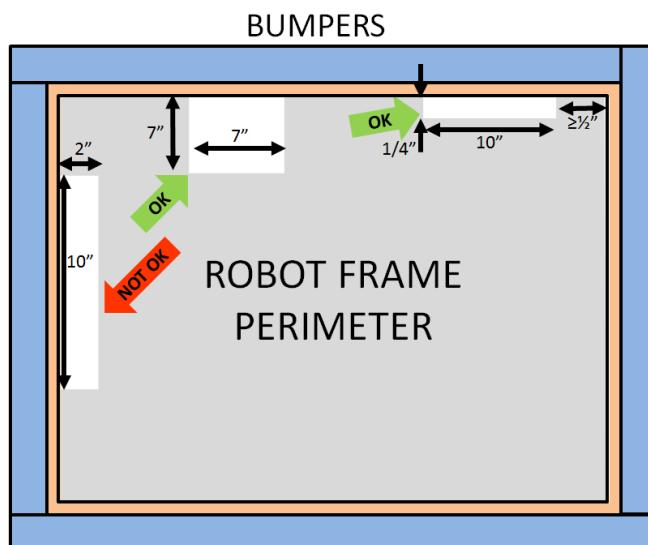

Figure 9-8 BUMPER support examples
**R26.** BUMPERS must be supported by the structure/frame of the ROBOT (see Figure 9-8). To be considered supported, a minimum of  $\frac{1}{2}$  in. (~13 mm) at each end of each BUMPER wood segment must be backed by the FRAME PERIMETER ( $\leq\frac{1}{4}$  in. gap, ~6mm). “Ends” exclude hard BUMPER parts which extend past the FRAME PERIMETER permitted by R24-B. Additionally, any gap between the backing material and the frame: